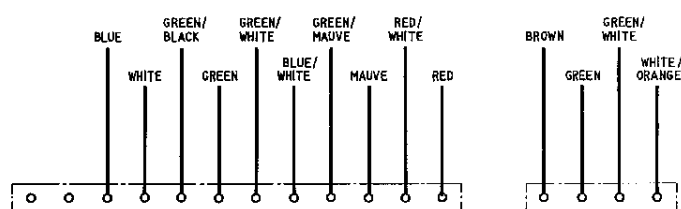

Fig. 7
- (1) Remove the left-hand gusset plate adjacent to the unit.
- (2) Unsolder the leads to the 4 and 12-way tag strips (fig.7) and the 100 KC/S OUTPUT plugs.